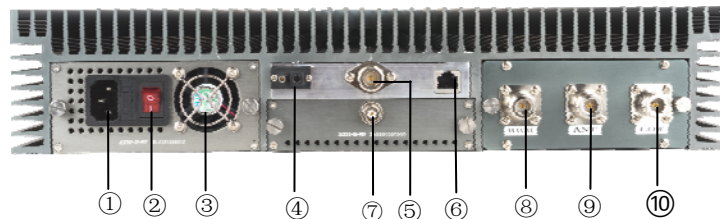

Figure2 - Rear Panel
From Fig.2, you see the rear view of the base station, which consists of four modules, i.e., the power supply module on the left, power amplifier module in the upper middle, TX&RX module in the lower middle, and the duplexer module on the right.
Open the package, check whether all modules are firmly installed in the base station. See Fig. 2 for completion of installation.
- * Press the power switch at the back of the base station (Fig.2-②), the power indicator goes out.